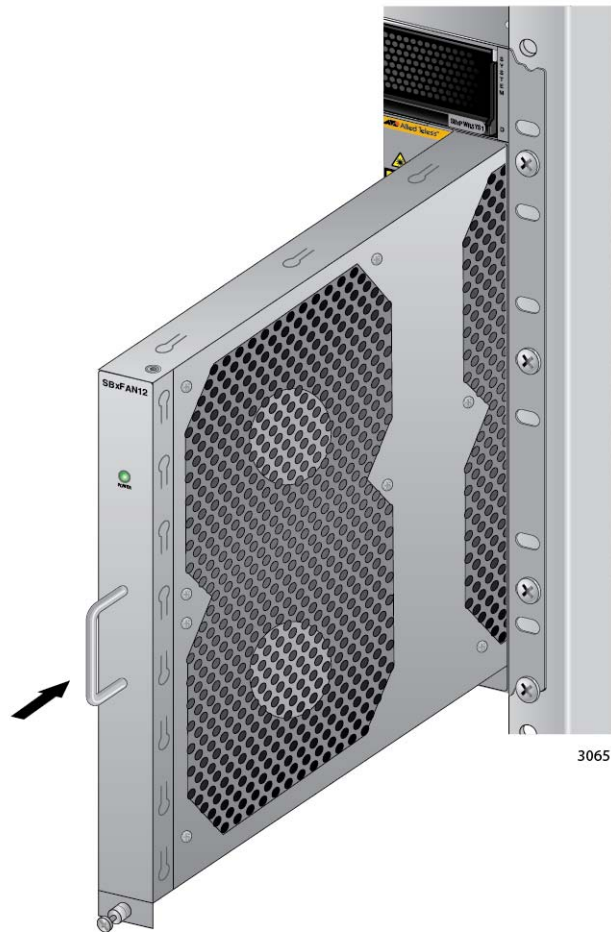

Figure 153. Installing a New AT-SBxFAN12 Fan Module
1. Orient the new module with the LED and module name on top and carefully slide the new module into the slot in the chassis. Refer to Figure 153 on page 229.